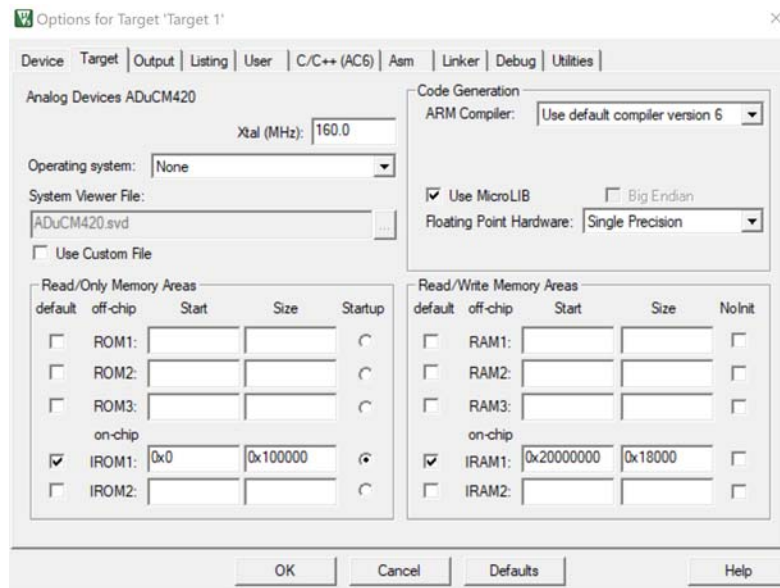

Figure 28. Keil General Options
- Selecting the **Configure Flash Tools** option opens the window shown in Figure 28. Click the **Target** tab, and ensure the **Floating Point Hardware** dropdown box is set to the **Single Precision** option, as shown in Figure 28.
- After establishing the settings shown in Figure 28, run the FPU example code from the C:\Analog Devices\ADuCM420\examples\M420\_FPU folder. In debug mode,